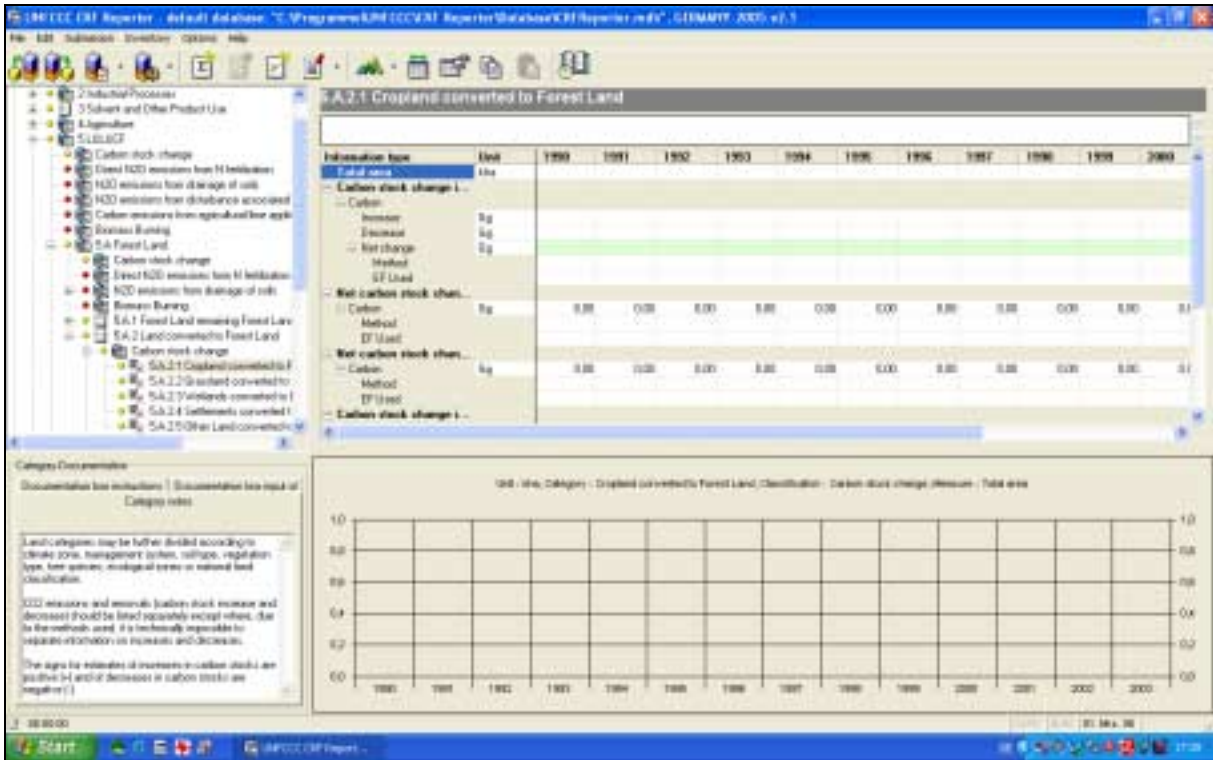

Figure 5. Zeroes in node 5.A.2.1 Cropland converted to Forest Land
**The presence of zeroes by default in the data grids, influences the completeness check results and the colour progress indicator. The tree nodes with such variables cannot have a red colour progress indicator (Figure 5).**